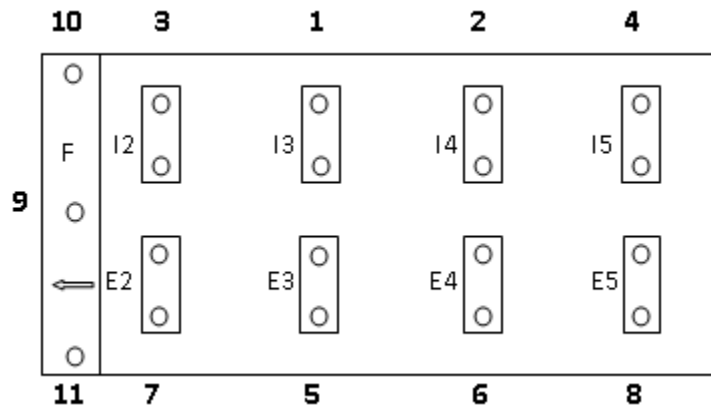

Figure 2 Camshaft Bearing Cap Installation and Torque Sequence
- _____ mm. Oil the camshaft and lifters with EF-411 then install the camshaft bearing caps in the positions indicated in Figure 2.
- _____ nn. To prevent the camshaft from warping, tighten using several steps uniformly, in the sequence as outlined by the bold numbers in Figure 2.
- _____ oo. Using the torque specifications in Table 6, torque each cap in the sequence as outlined by the bold numbers in Figure 2.